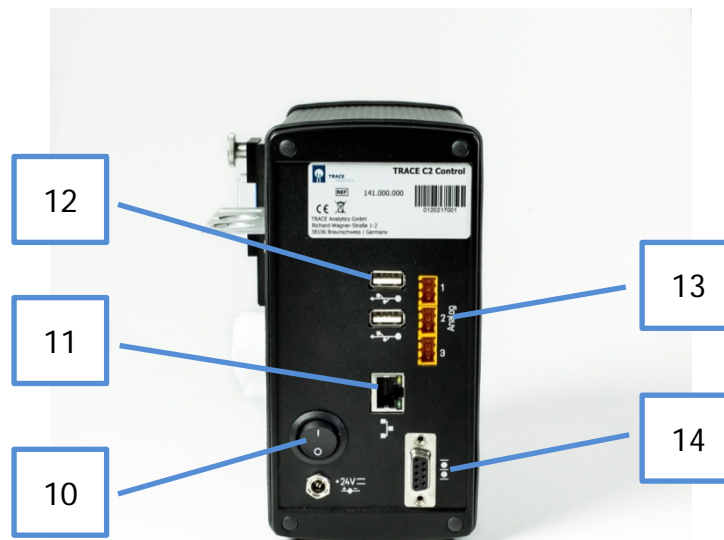

Figure 8: Rear view of TRACE C2 Control
Figure 8 shows the rear view of TRACE C2 Control. The device can be switched on and off by pressing the power switch (10).